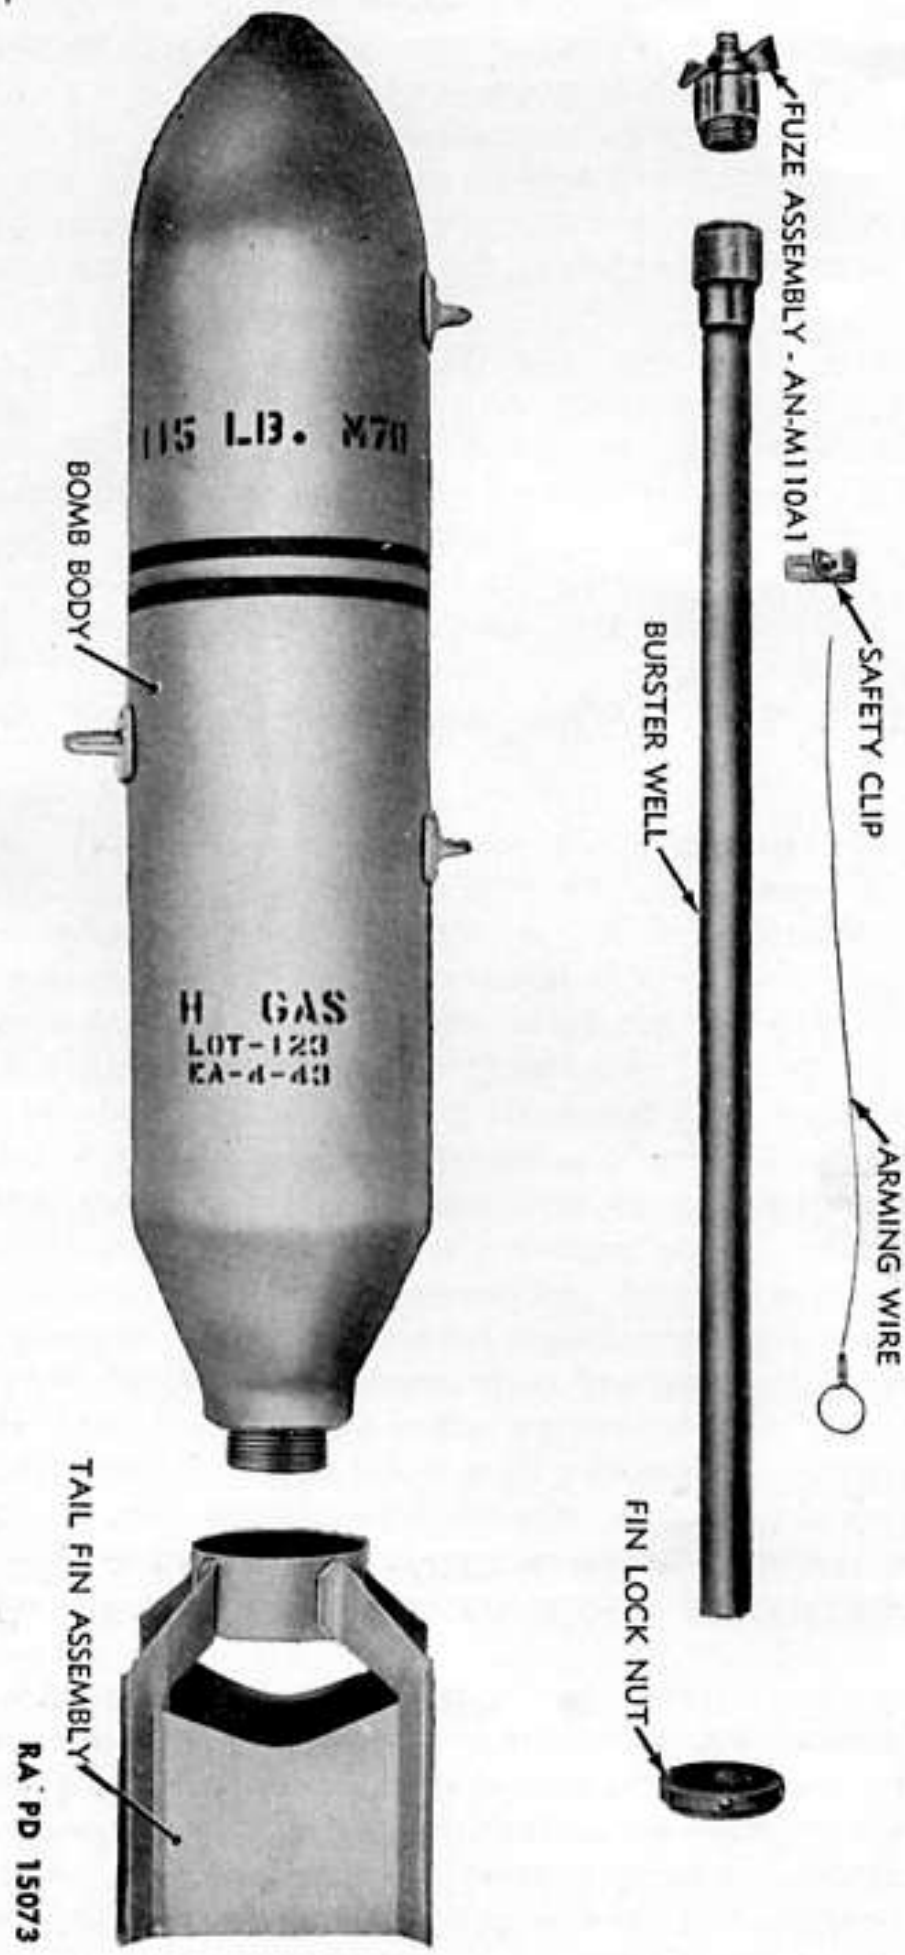

Figure 106. BOMB, gas, persistent, H, 115-lb., M70—components.
b. Complete round—small bombs. The complete round of small chemical bombs consists of the following (fig. 106):
- (1) Bomb body, including adapter, adapter sleeve, burster well, and chemical charge.
- (2) Fin assembly (included in body for 100-lb. bombs).
- (3) Burster and igniter.
- (4) Nose fuze.
- (5) Arming wire assembly.